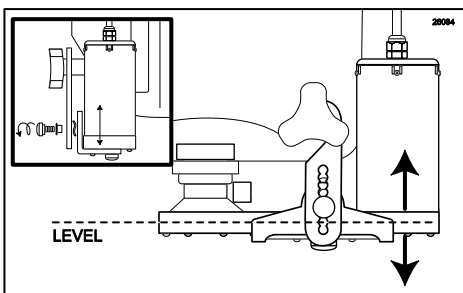

Figure 137
5. Use the bracket thumb screw to adjust the bracket vertically so that it supports the Injector Assembly in a level position. (See Figure 137.)